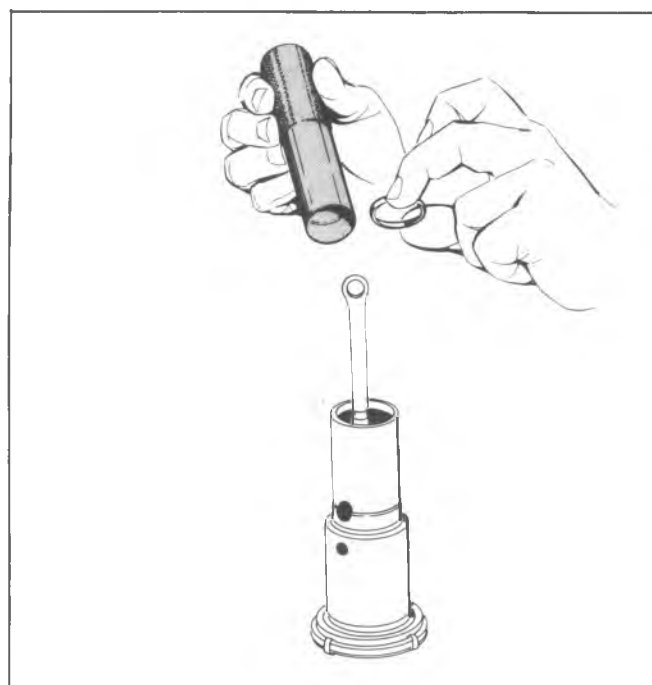
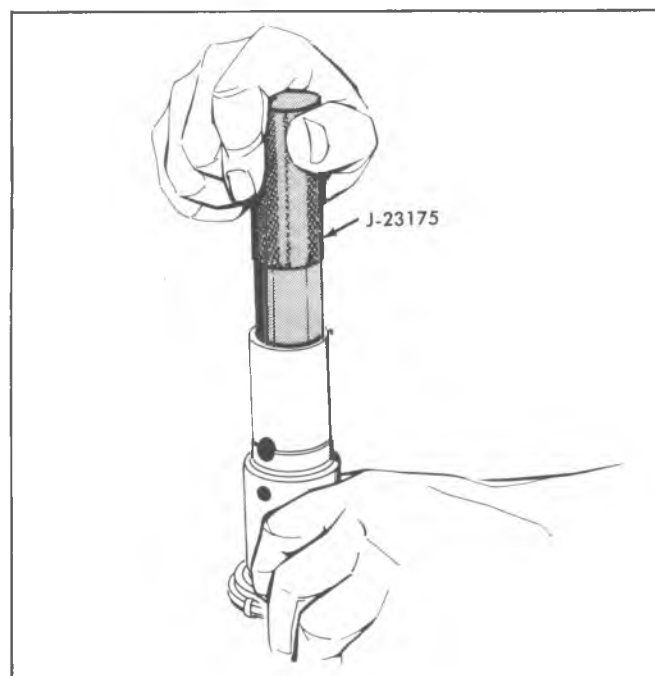

Fig. 5-3A—Installing Air Valve Push Rod Retainer
Fig. 5-4A—Seating Air Valve Push Rod Retainer Using J-23175
5. Place lip of retainer on the O.D. of Tool J-23175 (fig. 5-3A). Manually press the retainer until seated in the power piston tube (fig. 5-4A).